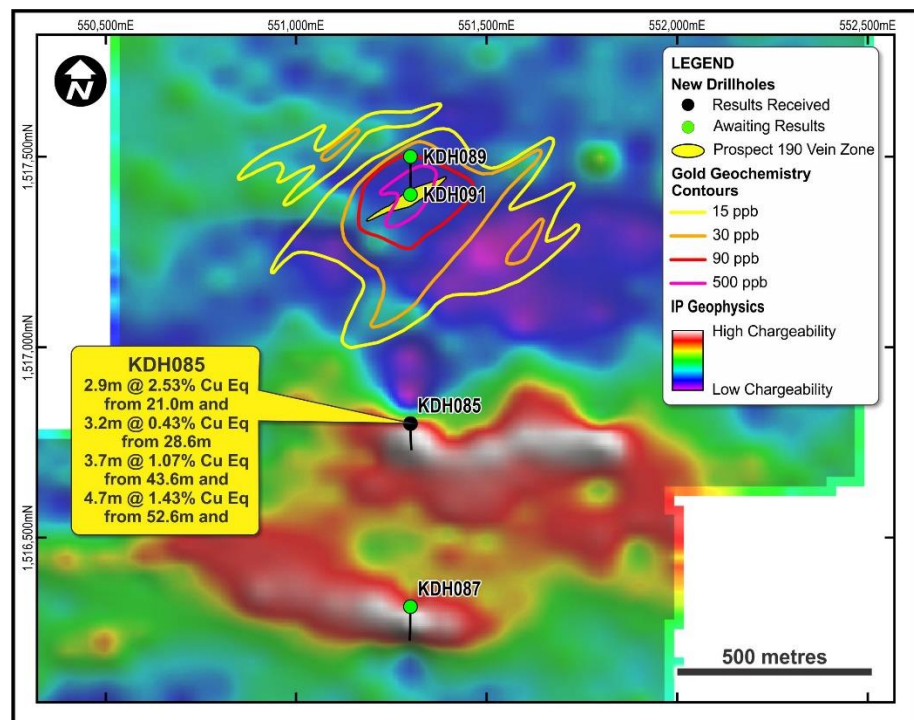

Figure 1: Plan view of KDH085 with IP geophysics at Prospect 190
The Board of Geopacific Resources Ltd ("Geopacific") is pleased to announce the positive results from the first (KDH085) of two drill holes south of Prospect 190. Multiple zones of copper and silver mineralisation were identified down hole (*Table 1 and Figure 2*). Induced Polarisation (IP) geophysics was used to identify the drill targets, which comprise two 600 metre long chargeability anomalies (*Figure 1*).